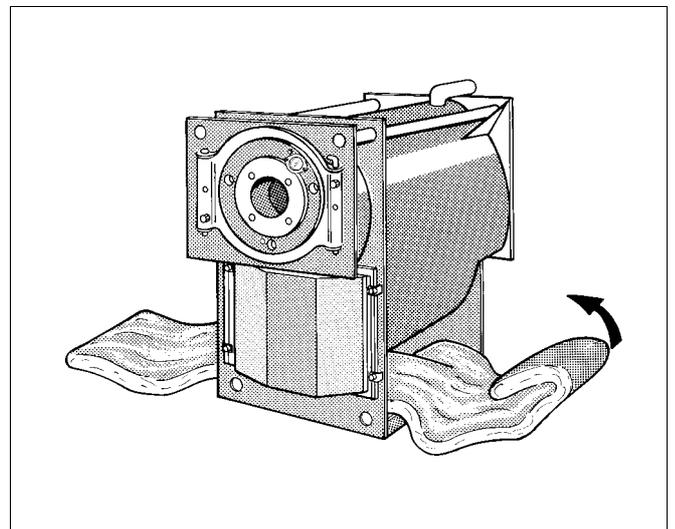

Fig. 4 Installing the thermal insulation
When fitting the thermal insulation, ensure that the textile web backing is arranged on the outside and the cut-outs at the rear (Fig. 4).
- Push the thermal insulation through underneath the boiler (Fig. 4).